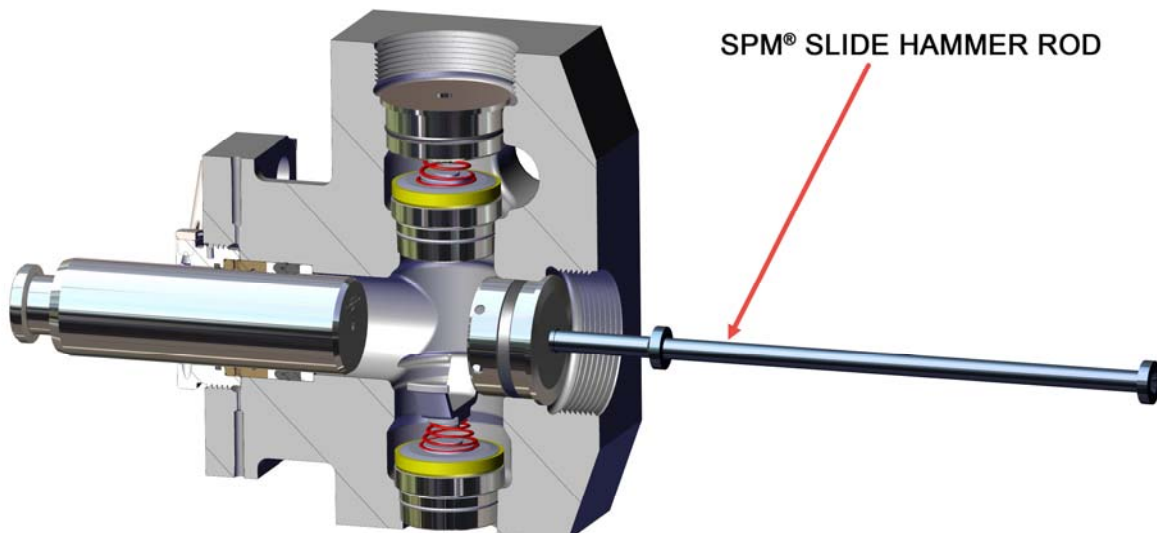

Figure 7
4. Reinstall the discharge covers and suction covers using the SPM® slide hammer. Care must be taken to keep the discharge valve springs aligned properly while installing the discharge covers. (Fig. 7)